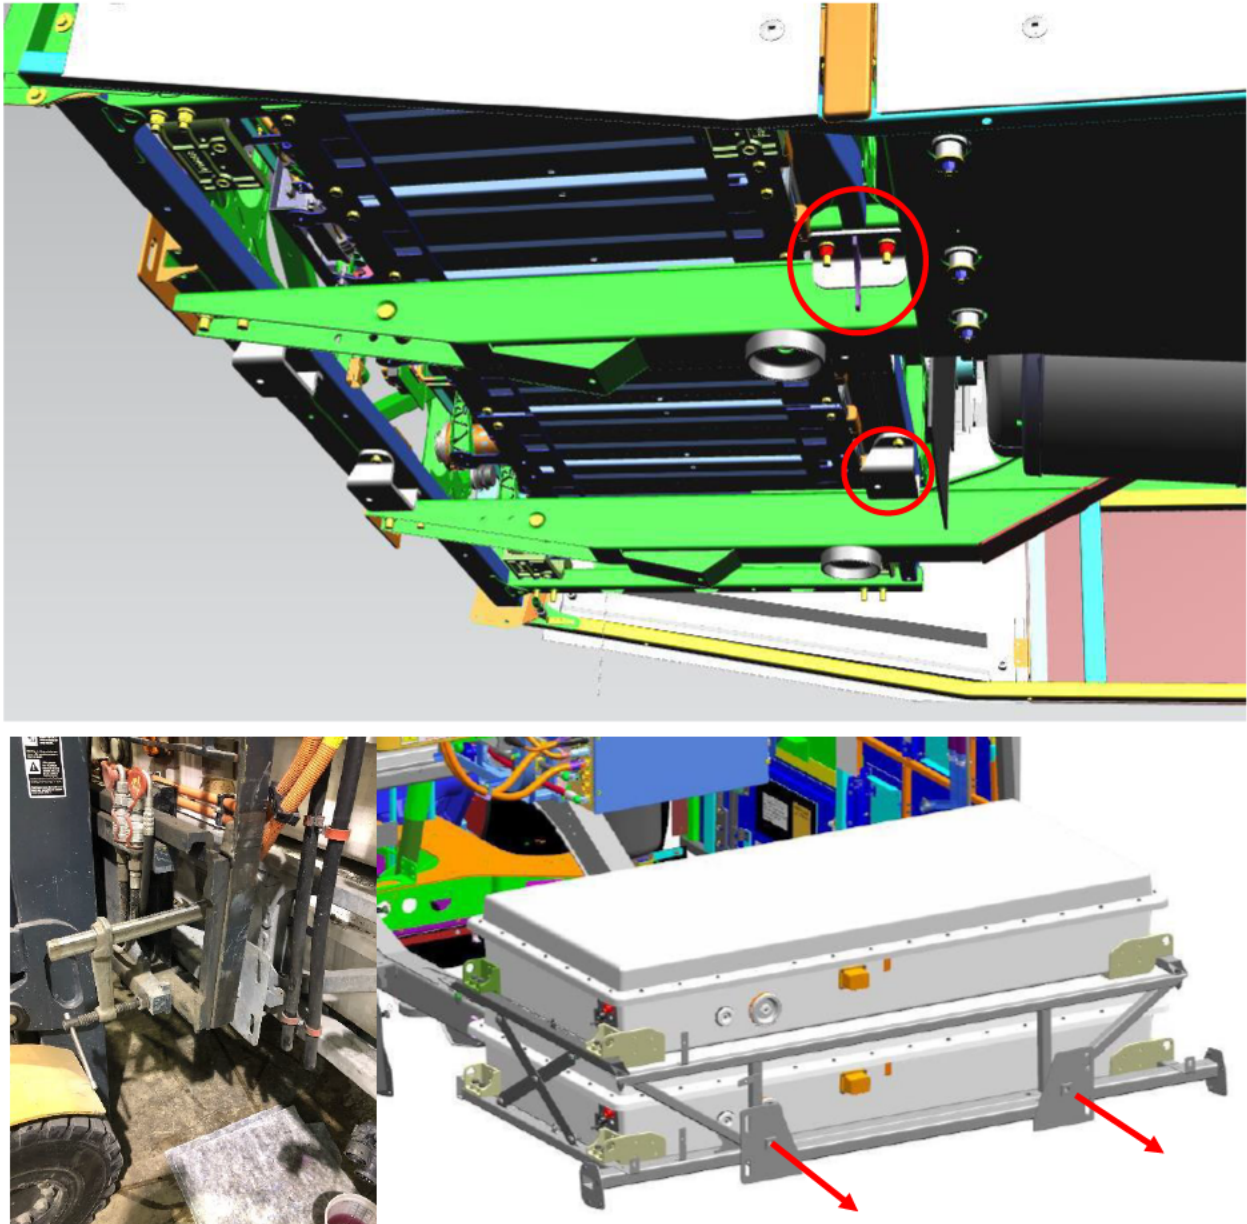

Figure 9: Rear ESS Compartments Removed from the Bus
17. From under the bus, remove the hardware between the front of the rear ESS rack and chassis. Reference Figure 9 for details.
18. Support ESS rack with forklift. Remove both rear ESS compartments from the bus. Before removal of the ESS, ensure no harnesses, cables, ground straps, or coolant hoses are connected. Reference Figure 9.